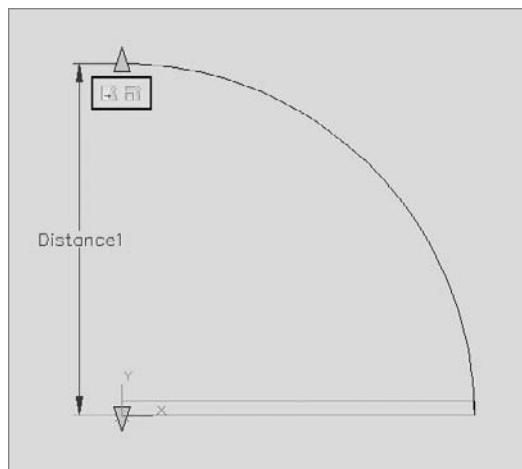

FIGURE 9.46 The A-DOOR-36IN block with the Stretch and Scale actions assigned to the Distance parameter
4. At the **Select objects:** prompt, select the door and press ↵. The Stretch Action icon appears near the end of the door swing (Figure 9.46).
The Scale Action icon appears next to the Stretch Action icon, as shown in Figure 9.46.